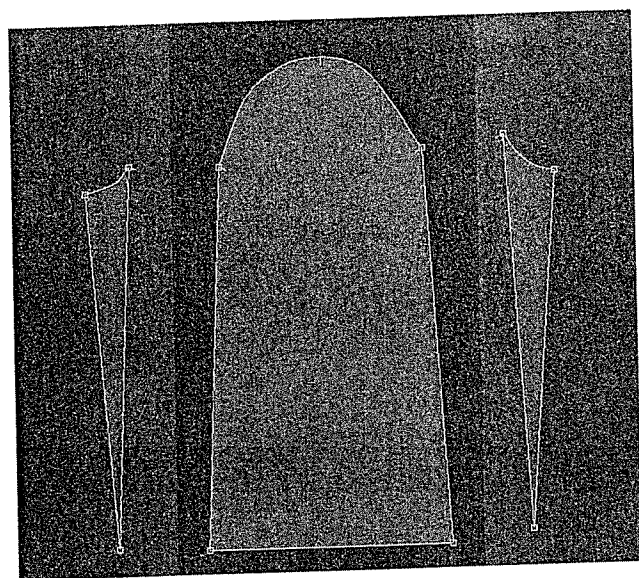

Figure 4.34 Three sleeve pieces.
3. Separate the sleeve into three pattern pieces using *F5>Derived pieces>Cut Plot* or *F4>Industrialisation>Cut* (Figure 4.34). Dividing the sleeve into three pieces allows lengthening of the sleeve cap.